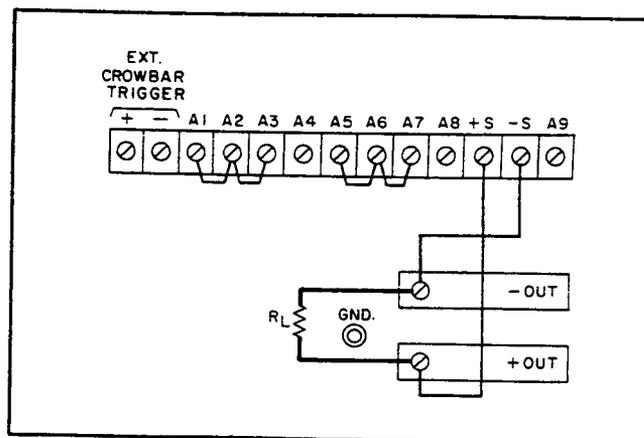

Figure 3-2. Normal Strapping Pattern
a. Turn CURRENT controls (7) and OVERVOLTAGE ADJUST potentiometer (5) fully clockwise and check that rear panel straps are connected as shown in Figure 3-2, but do not connect load  $R_L$ .
- c. Set LINE switch or circuit breaker (1) ON and observe that pilot lamp (2) lights.
- d. Adjust COARSE and FINE VOLTAGE controls (3) for desired indication on voltmeter (4).
- e. Ensure that overvoltage crowbar circuit is operational by slowly turning OVERVOLTAGE ADJUST control (5) counterclockwise with a screwdriver until OVERVOLTAGE lamp (6) lights and voltmeter indication drops to zero volts.
g. To check the constant current circuit, first turn off the supply, connect a short across the output bus bars (see Figure 3-2), and turn it back on.
h. Adjust **COARSE** and **FINE CURRENT** controls ⑦ until ammeter ⑧ indicates desired output current or current limit. (The **VOLTAGE** controls must be set for a greater-than-zero output to obtain the output current programmed.)
3-7 This power supply was shipped with the proper rear panel strapping connections made for constant-voltage/constant-current operation with local sensing and local programming. This strapping pattern is illustrated in Figure 3-2. By means of the front panel voltage and current controls, the operator selects either a constant-voltage or a constant-current output. Whether the supply functions in the constant-voltage or the constant-current mode depends on the settings of the voltage and current controls and on the resistance of the output load. For values of load resistance greater than a critical crossover value equal to the voltage setting divided by the current setting, the supply operates in the constant-voltage mode. With a load resistance smaller than this critical value, it operates in the constant-current mode. The transition occurs automatically; no switches need to be operated or connections changed.
3-28 Because of the unavoidable voltage drop developed in the load leads, the normal strapping pattern shown in Figure 3-2 will not provide the best possible voltage regulation at the load. If, for example, one were to use 4-gauge wire to connect a load that is located only 5 feet from a
*The +S jumper is the one that links the +S terminal to the +OUT terminal when the supply's terminals are strapped for normal operation as shown in Figure 3-2. The -S jumper is the one that links the -S terminal to the -OUT terminal.*